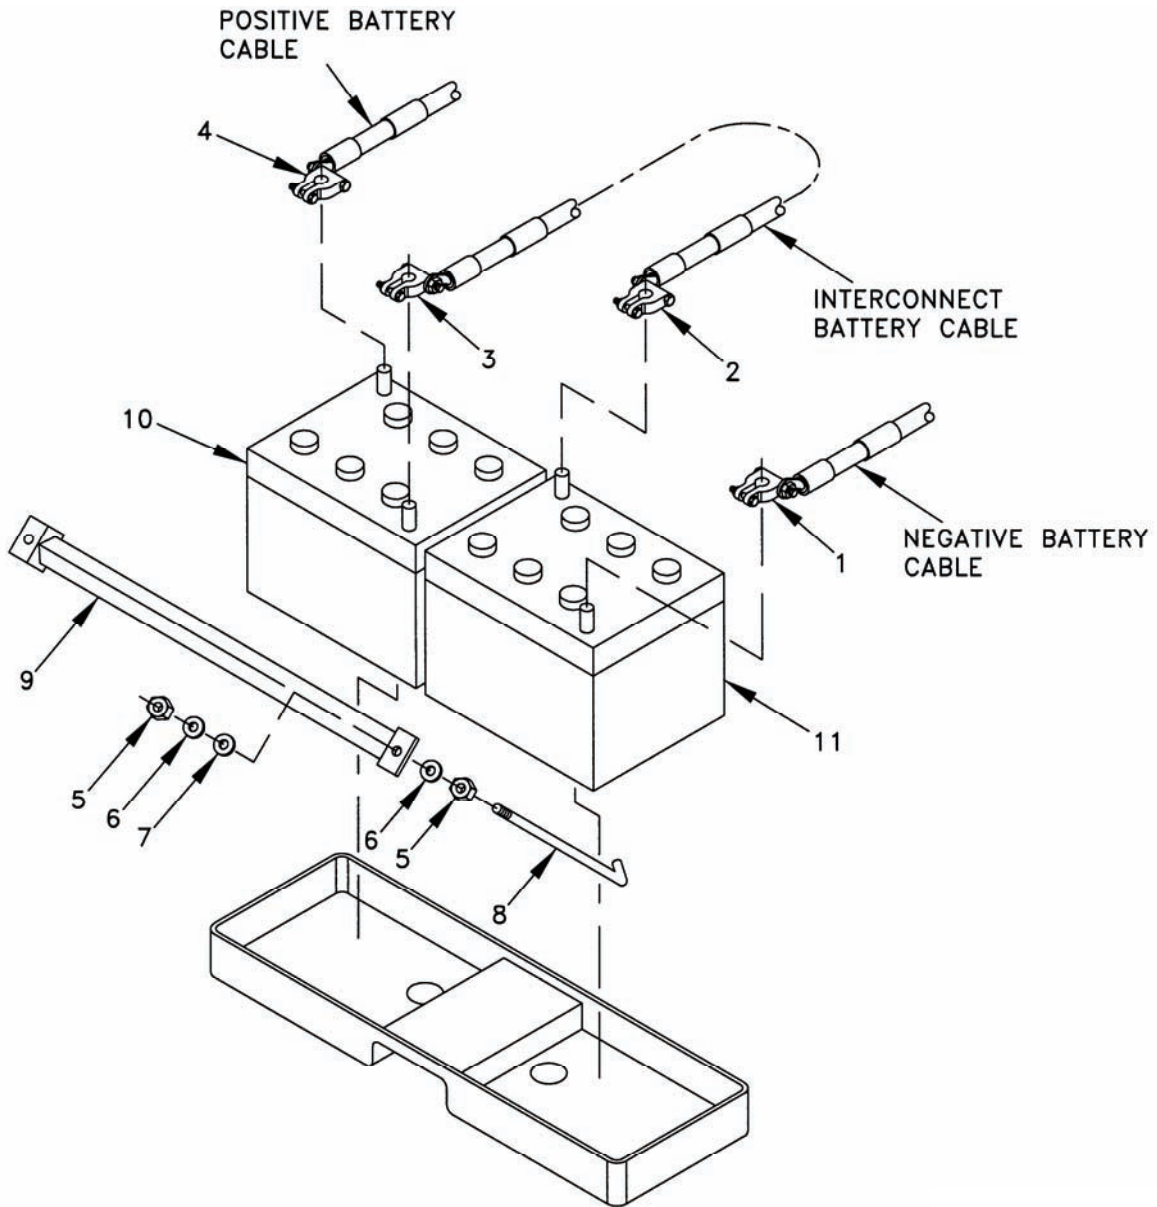

Figure 5-1. Batteries.
- d. Disconnect negative battery cable terminal lug (1, Figure 5-1).
- f. Disconnect positive battery cable terminal lug (4).
- g. Remove nuts (5), washers (6), lock washers (7), hook bolts (8), and retaining bar (9). Discard lock washers (7).